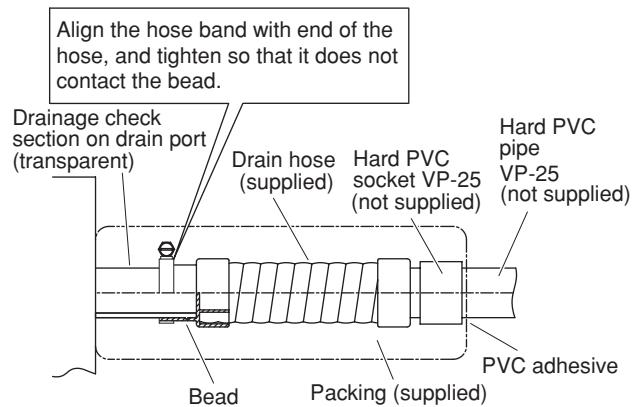

Fig. 3-63
- (1) Prepare standard hard PVC pipe (O.D. 32 mm) for the drain and use the supplied hose band to prevent water leaks. The PVC pipe must be purchased separately. The transparent drain part on the unit allows you to check drainage. (Fig. 3-63)
- Tighten the hose clamps so their locking nuts face upward. (Fig. 3-63)